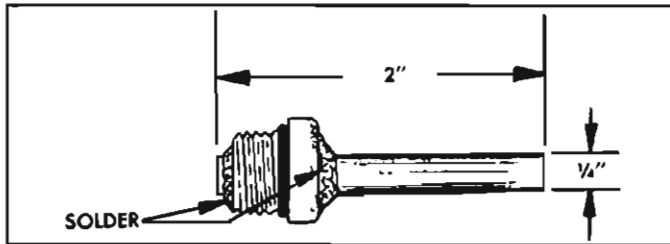

Fig. 75—Reservoir Filler Plug Adapter
- b. Install two inch length of metal tubing ($\frac{1}{4}$ " O.D. x $\frac{3}{16}$ " I.D.) into center of filler plug and solder tubing on both sides of filler plug to form air tight connection. See Figure 75.